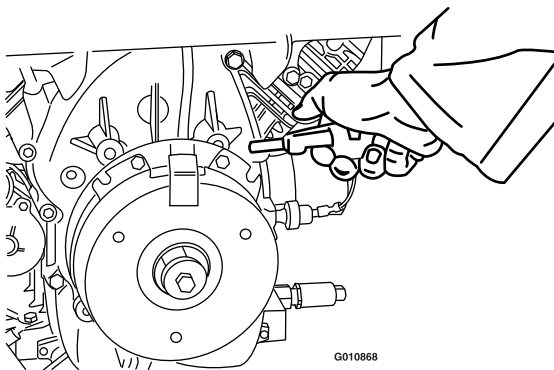

Figure 63
3. Using an air compressor, blow out any debris from under the brake pole and around the brake spacers (Figure 63).